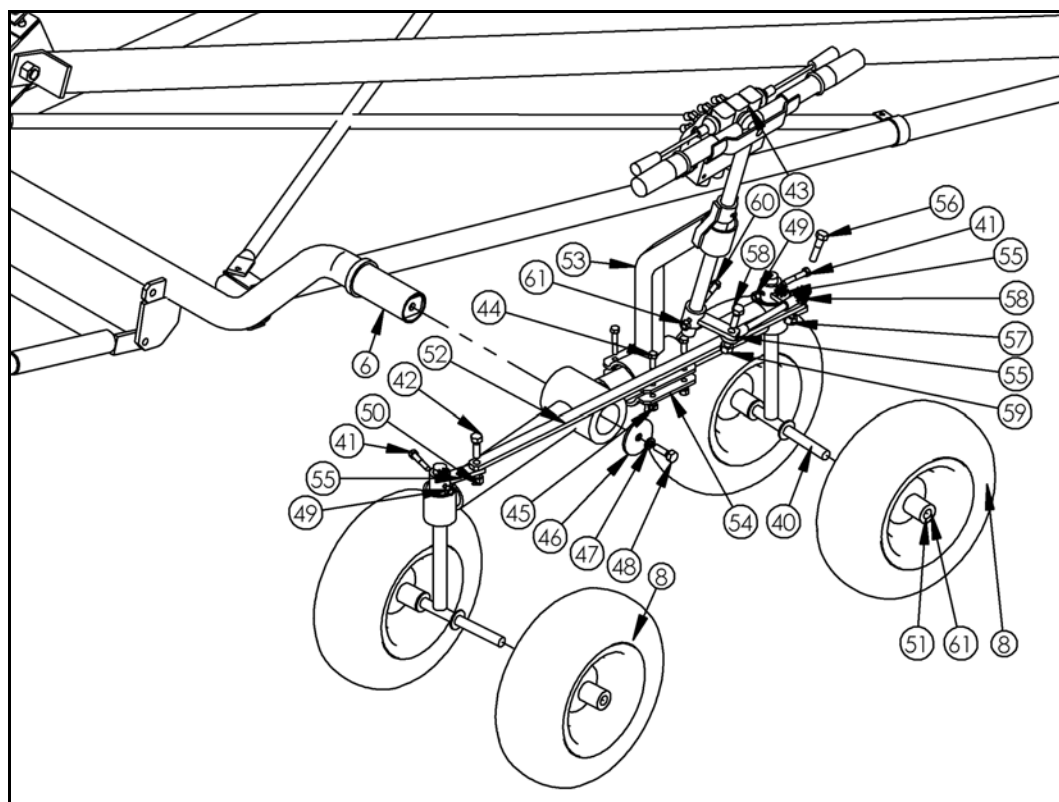

Figure 3.14
6. Secure tandem axle (39) to v-frame (6) with axle cap (46), bolt (48) and lock washer (47).
7. Connect double wheel yoke (40) to tandem axle with yoke link arm (55A), bolt (41) and locknut (49).
8. Install tires (8) on double wheel yoke (40) with locknut (61).
9. Mount steering bar column (53) and plate (54) on tandem axle (39) with bolts (44) and locknuts (45). See Figure 3.14.